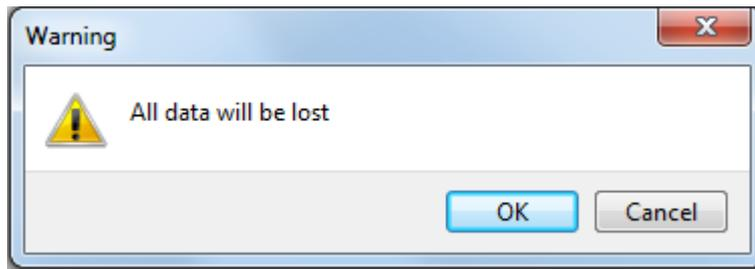

Fig. 27 Data loss warning.
- Select: **OK** to start uploading of the update (Fig. 27).